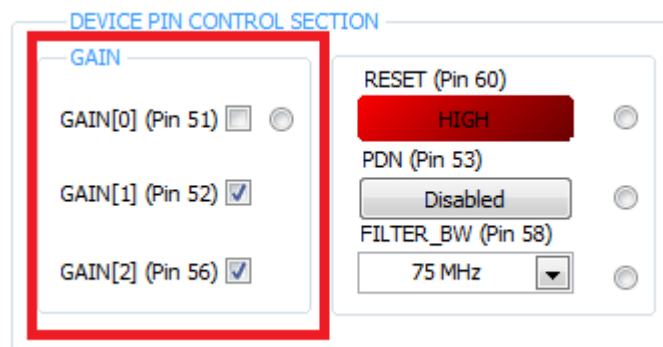

Figure 50. PGA5807 GUI Setup for PGA5807A + ADS5296A Gain Test 4
- Return to the *PGA5807* tab and change the **GAIN[x]** values in the *DEVICE PIN CONTROL SECTION* to 18dB as shown in Figure 50.